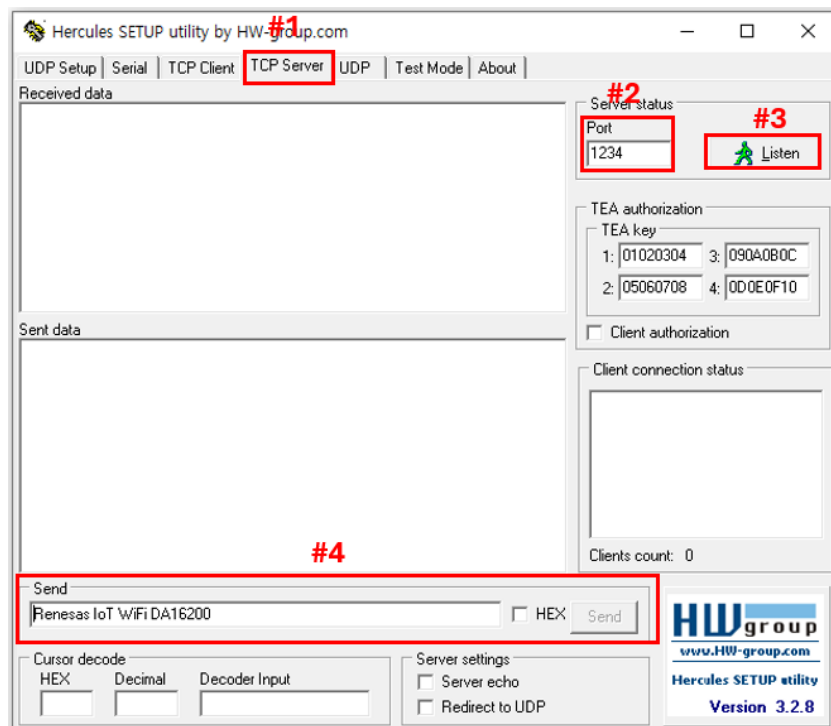

Figure 30. Hercules – TCP server socket setting
- a. Select TCP Server (#1, see Figure 30).
- b. Enter the port number to be used (#2, see Figure 30).
- c. Click Listen to start to Listen (#3, see Figure 30).
- b. Send data (#4, see Figure 30).